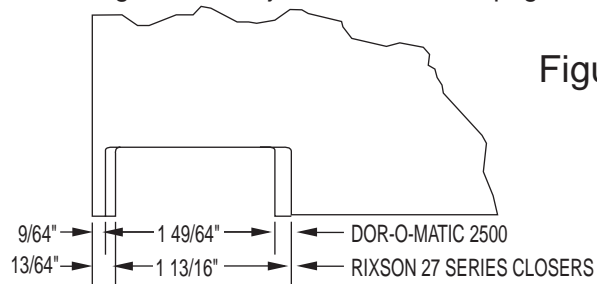

Figure 3
- 2) If top of door on hinge side is not 1/8" below the frame, remove adjustment screw cover (See FIGURE 3), insert allen wrench into top side of pivot and adjust as necessary. Screw will be turned clockwise to raise door and counterclockwise to lower. See FIGURE 4